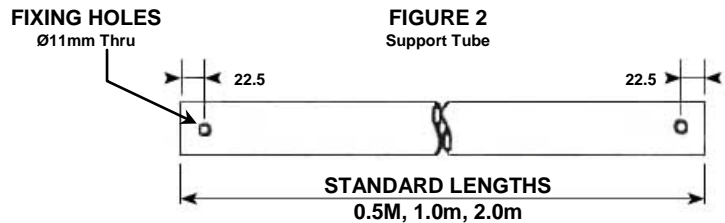

FIGURE 3
4. Refer to fig 3. Fit one of the m8 screws, (item 4) into the socket fixing (item 3).